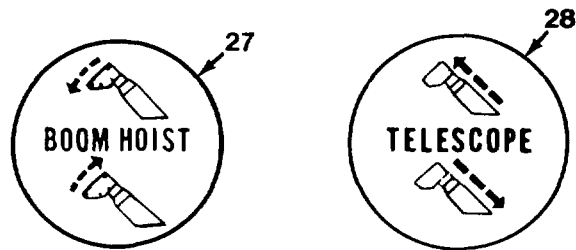

Figure 4-8. Boom Hoist Lever Figure 4-9. Boom Telescope
27. **Boom Hoist Lever** raises or lowers boom: pull to raise boom; push to lower boom (Figure 4-8).